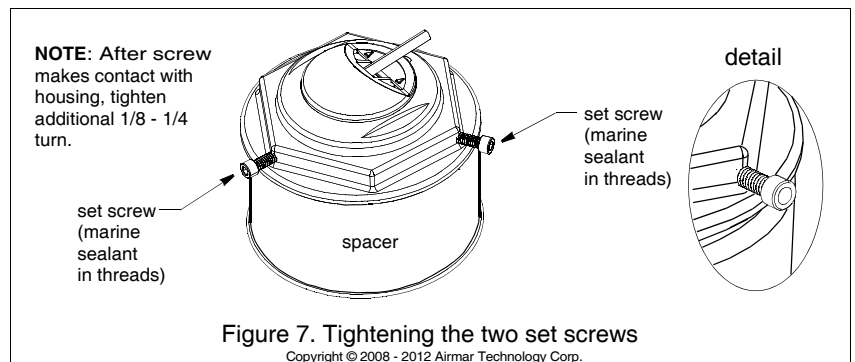

Figure 7. Tightening the two set screws
4. **Secure the hull nut with the two set screws supplied** (see Figure 7). Apply marine sealant to the threads of the set screws. Using an Allen wrench, tighten each set screw until it makes contact with the housing threads. Continue to tighten an additional 1/8 to 1/4 turn. This will hold the hull nut firmly in place. *Failure to do so may allow the hull nut to vibrate loose.*